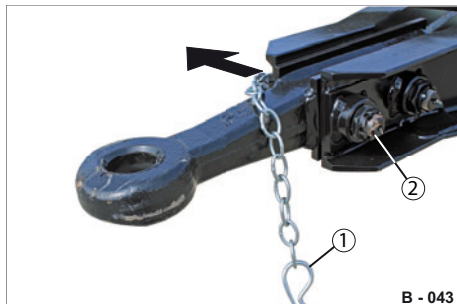

Fig. 40 Releasing mounting
- Remove the spring pin (Fig. 40/1) from the fastening bolt (Fig. 40/2).
- Unscrew the fastening bolt (Fig. 40/2) and completely remove it.